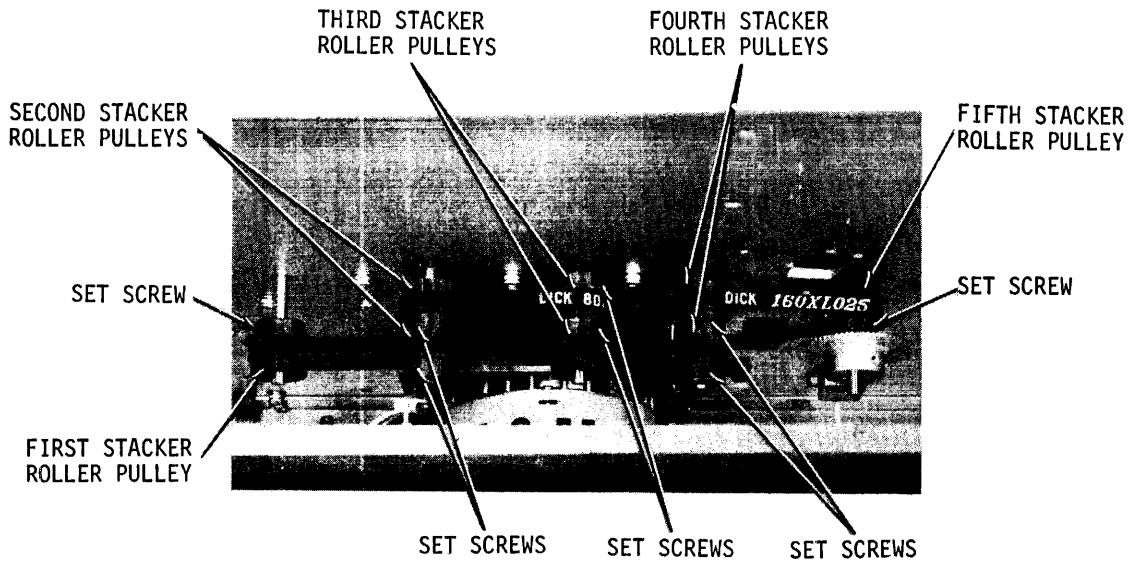

Figure 9-5. Stacker Drive Train Pulley Arrangement
- d. Using 3/32 Allen wrench, LOOSEN set screw in fifth stacker roller pulley, figure 9-5.
- j. Slip belt over upper fourth stacker roller pulley, figure 9-5.
- b. Using a 3/32 Allen wrench, LOOSEN set screw in bottom fourth stacker roller pulley, figure 9-5.
- b. Using a 3/32 Allen wrench, LOOSEN set screw in bottom second stacker roller pulley, figure 9-5.
Observe the position of the upper pulleys with respect to the mainframe, figure 9-5. Note that pulleys three, four and five are installed close to the mainframe with a slight clearance. Pulley number two should be lowered sufficiently to allow the belt to line up with pulley number three.
1. Using a 3/32 Allen wrench, LOOSEN set screw in bottom second stacker roller pulley, figure 9-5.
5. Replace first stacker roller pulley on first stacker roller shaft in position shown in figure 9.5.
10. Replace top third stacker roller pulley on third stacker roller shaft in position shown in figure 9.5.